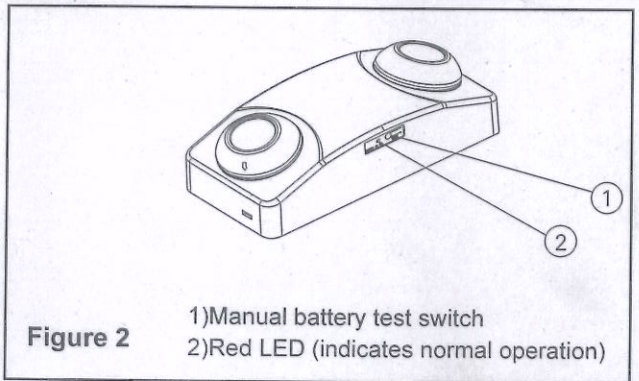

Figure 2
1. Manual testing can be initiated by pushing on the test switch (1) (Figure 2)